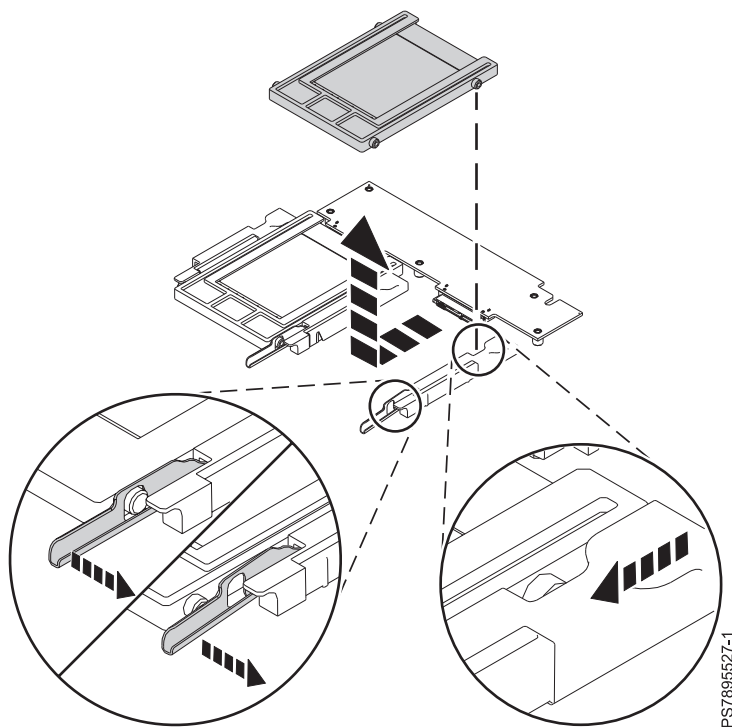

Figure 12. Removing an SSD carrier
- a. Pull and hold the blue release lever at the front of the drive tray, as indicated in Figure 12.